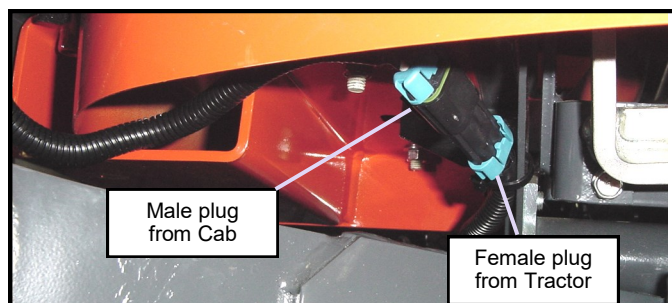

Fig. 3.13: Cab to Tractor plug connection
- 3.13 Attach the weather-pack connector at the front, right of the cab to the connector from the relay harness, under the right front mount (see fig. 3.13).